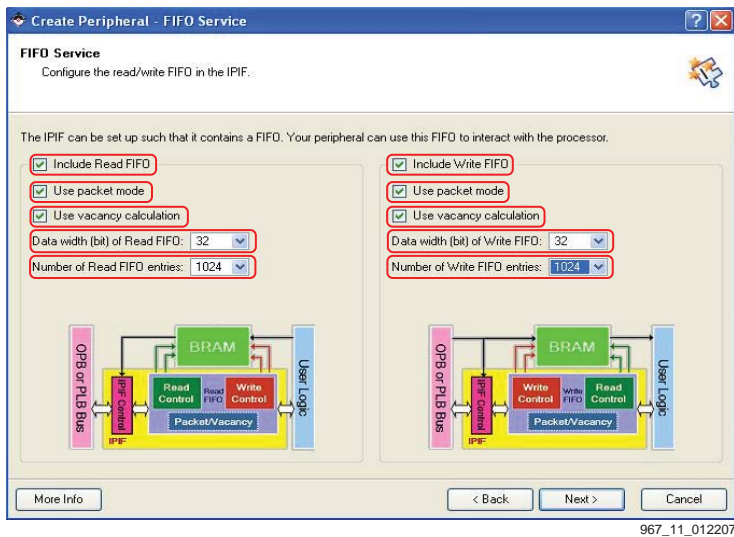

Figure 11: FIFO Services Configuration
9. In the FIFO Service window, configure the size of the read and write FIFOs by making the selections shown in Figure 11, then click **Next**.